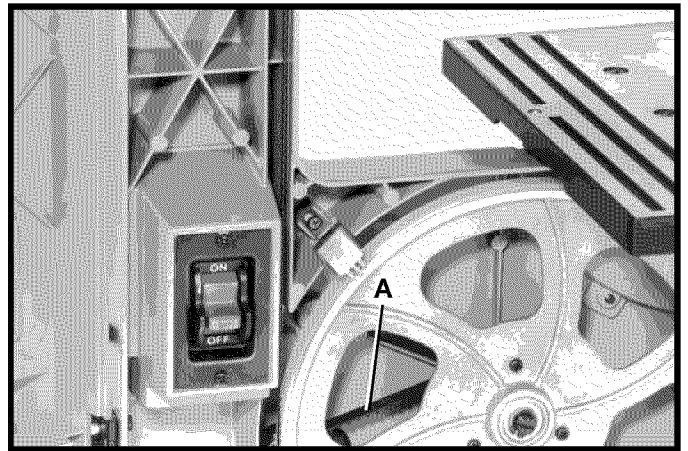
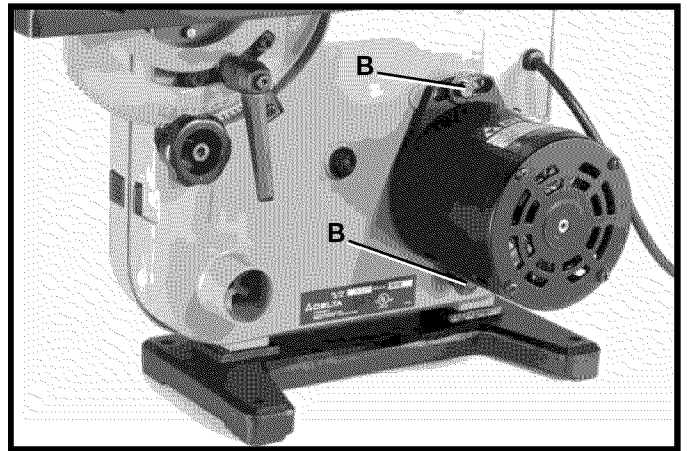

Fig. 34
Fig. 35
2. The belt (A) Fig. 34, drives the saw pulley from the motor pulley. Correct tension of the belt (A) is when there is approximately 1/4" deflection in the center span of the belt (A) using light finger pressure. If belt tension needs adjusted, loosen two screws (B) Fig. 35, and rotate motor accordingly. Tighten screws (B) when adjustment is completed.